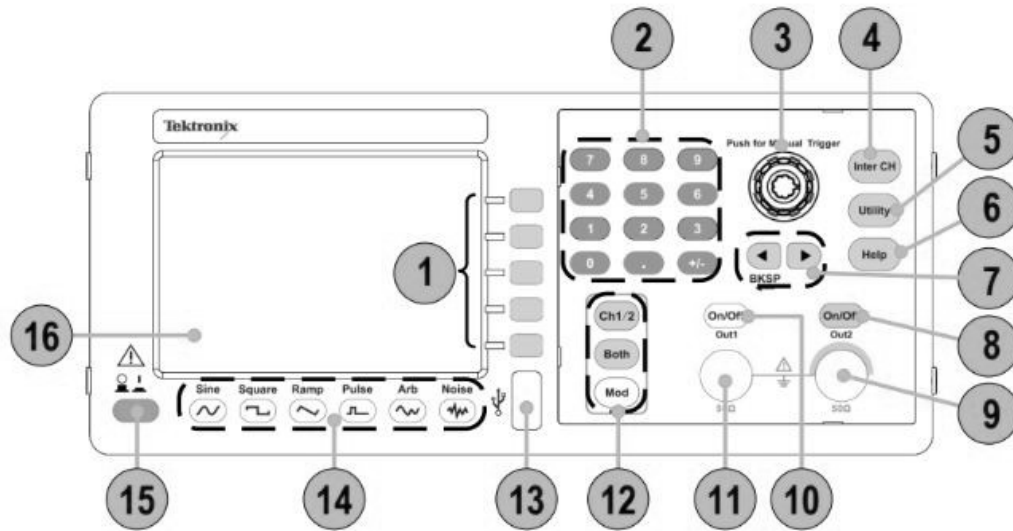

Figure 1.2: AFG1022 Front Panel
- (a) Draw or attach an image of the AFG1022's front panel refer to Figure 1.2 *AFG1022 Front Panel*.